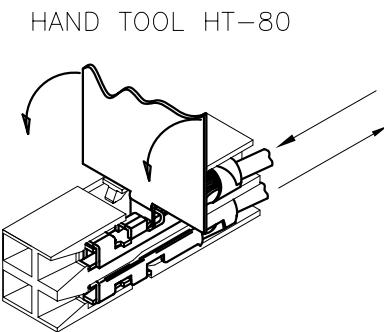

FIGURE 2
5. TO REMOVE TERMINAL; PUSH TERMINAL FORWARD, LIFT LATCH WITH HAND TOOL AS SHOWN IN FIGURES 2 & 3. DAMAGE TO LATCH MAY OCCURE IF LIFTED MORE THAN A 25° ANGLE TO THE TOP OF HOUSING.